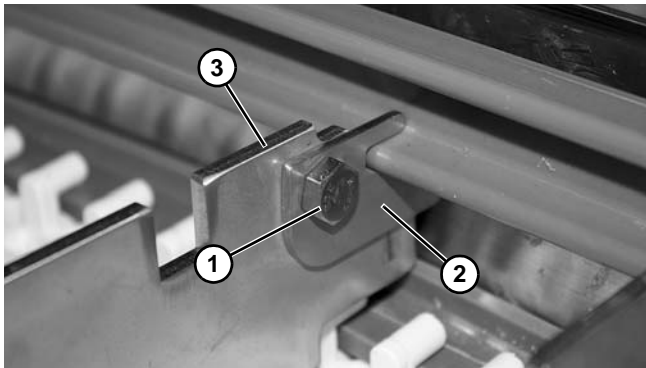

Figure 42
1. Remove the screws (**Figure 42, item 1**) retaining the wear strip support brackets (**Figure 42, item 2**) to the frame crossmembers (**Figure 42, item 3**).